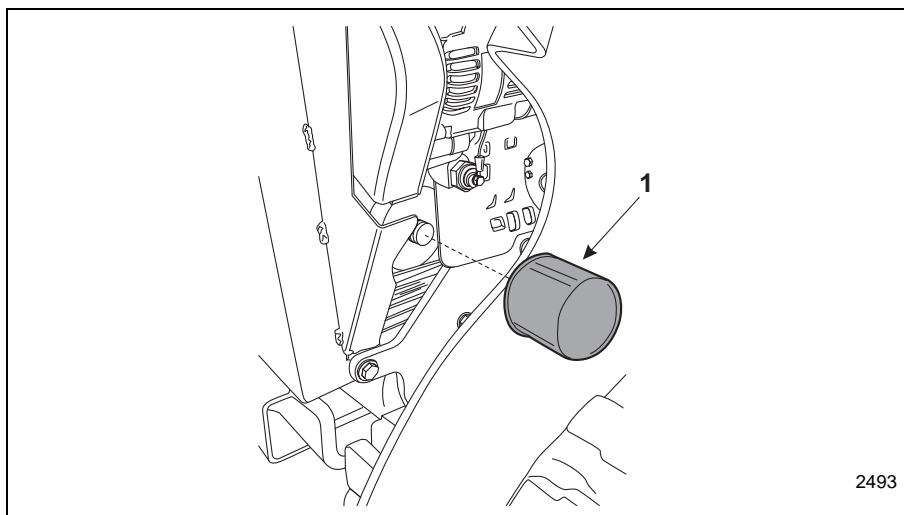

Figure 4-14 Engine Oil Filter
2. Change engine oil filter, which is located on the left side of the engine - see engine manual and (Item 1, Figure 4-14).